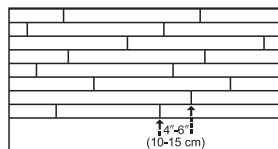

Figure 16
- Check for a tight fit between all edges and ends of each plank. End-joints of adjacent rows should be staggered 4'-6" (10-15 cm) when possible, to ensure a more favorable overall appearance (Figure 16).